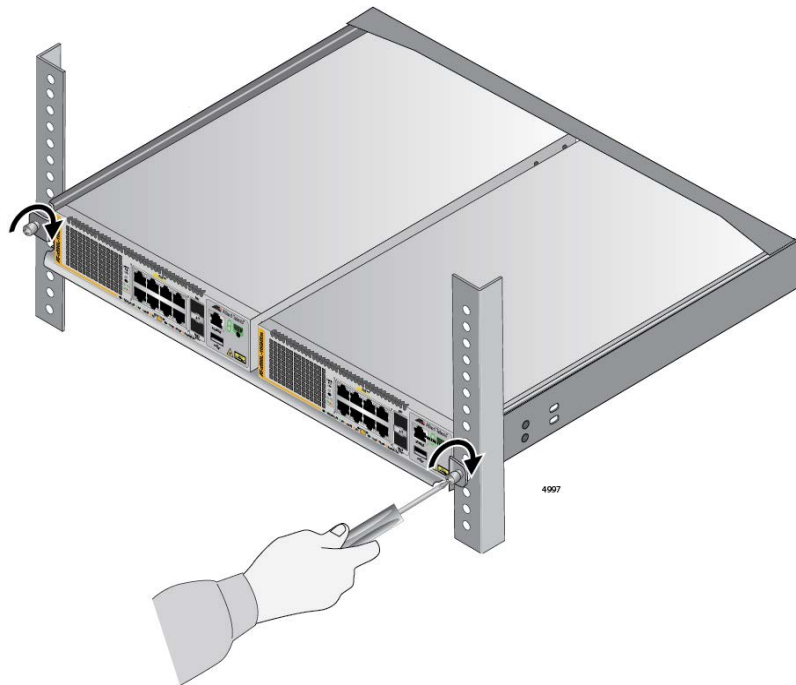

Figure 45. Tightening the Two Thumbscrews on the RKMT-J15 bracket.
11. Tighten the two thumbscrews to secure the bracket to the rack. Refer to Figure 45.